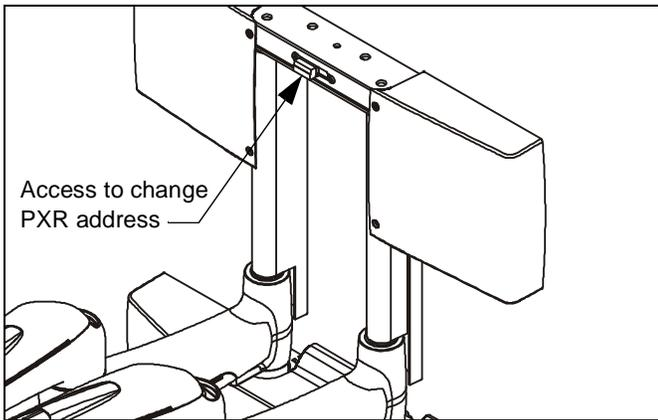

Figure 44
2. Using the DIP switches on the I/O interface (See Figure 44), set the PXR to one of the unused addresses. (See Figure 45)